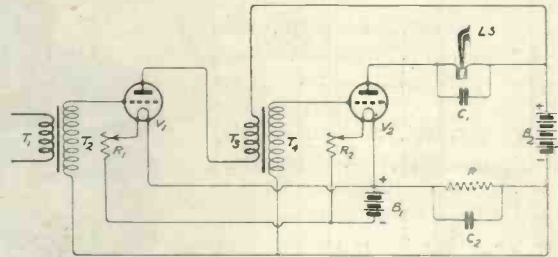

Fig. 1.—Illustrating a novel method of obtaining negative grid bias.
**Y**OU will remember that recently I was speaking about methods of obtaining a negative grid bias for amplifying valves. An idea which a more experienced experimenter may like to try out is shown in Fig. 1. This shows a power amplifier using two valves. The negative potential for the two grids is obtained, not from any battery, but from the drop in E.M.F. across a resistance included in the common anode circuit.